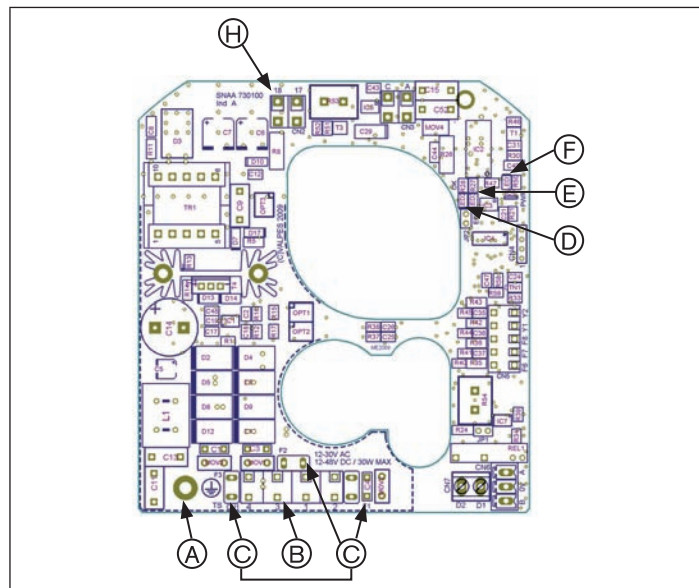
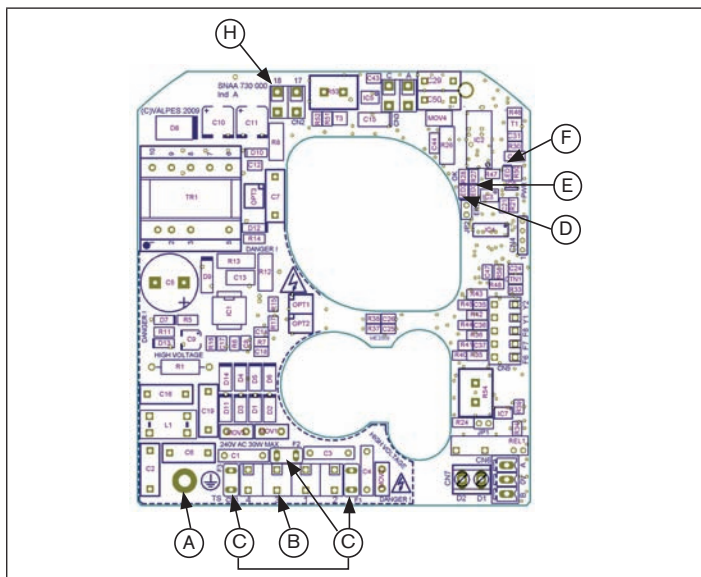

Fig. 12: Power supply circuit board 15-30 V 50/60 Hz (12-48 V DC)
Fig. 13: Power supply circuit board for actuators with 300 Nm
- Loosen earthing screw (16) and attach eyelet of the earthing cable to the earthing screw.
- To do this, loosen earthing screw and attach eyelet of the earthing cable with the earthing screw (see “Fig. 12” and “Fig. 13”).
- Connect cable according to the required control type (“Fig. 14” and “Fig. 15”) to the terminal strip Pos. B of the power supply circuit board (“Fig. 12” and “Fig. 13”).